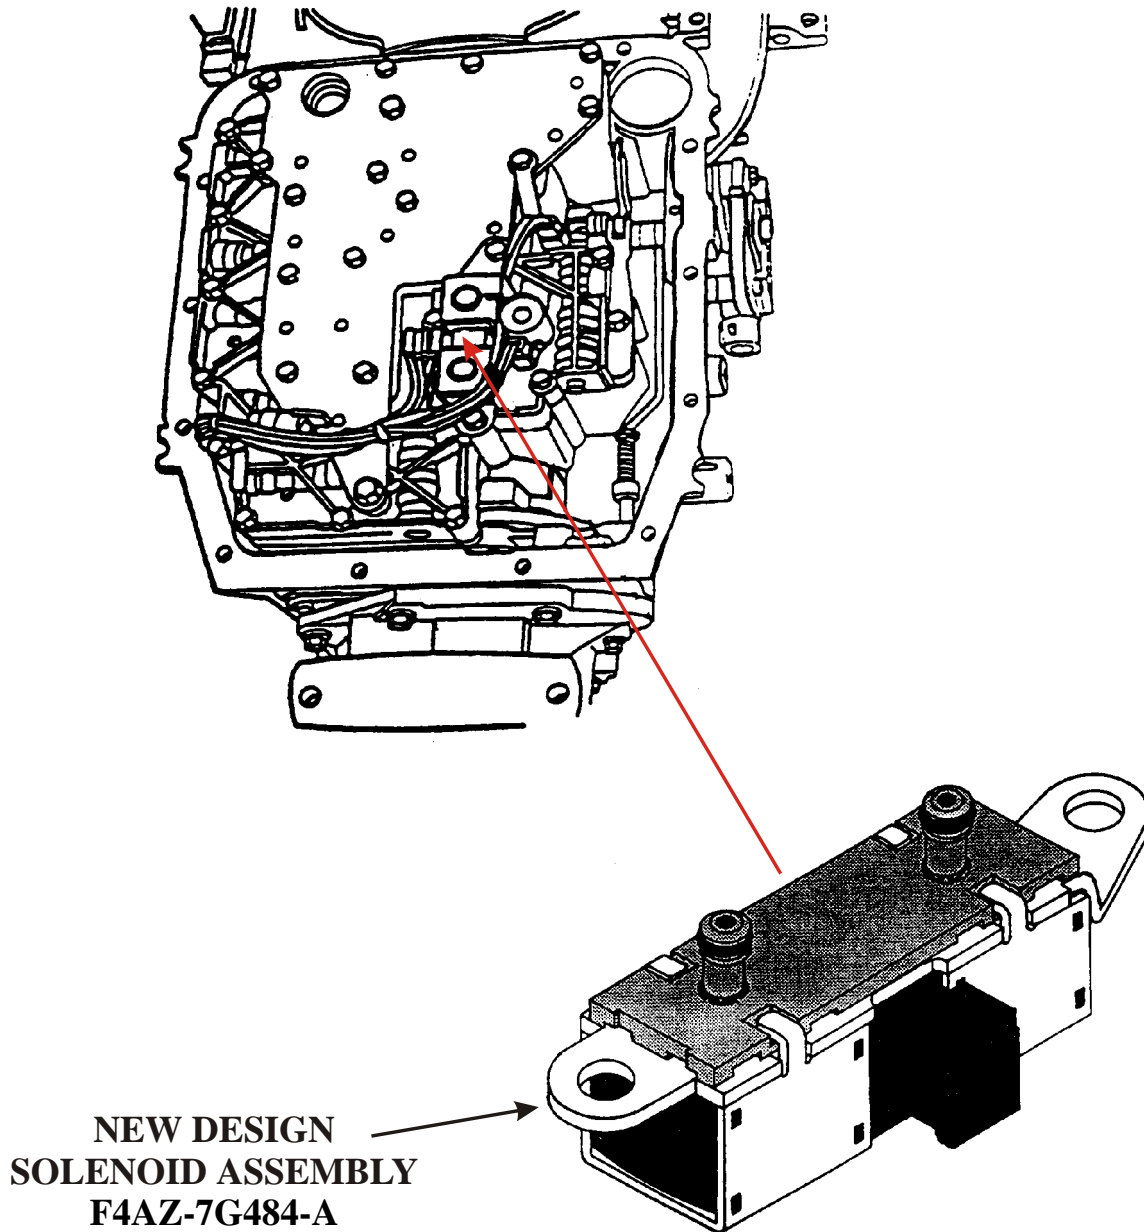

Figure 2
NUMBER (2) - There is now a New Design Shift Solenoid Assembly available under OEM part number F4AZ-7G484-A. ALWAYS replace the Shift Solenoid Assembly with the new design, as shown in Figure 2.